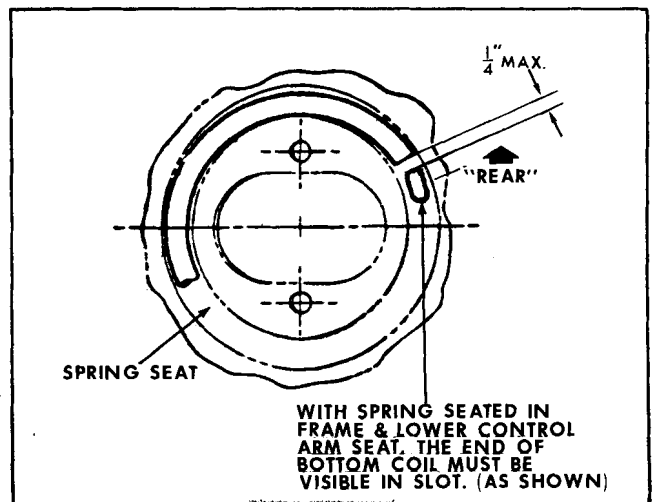

Fig. 3-22 Coil Spring Position In Lower Control Arm Spring Seat
1. Install by reversing the above steps. Take care to ensure that spring is properly installed as shown in Fig. 3-22.